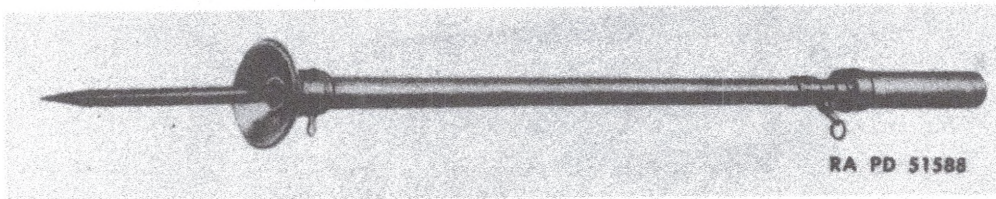

Figure 1 — Projector, Signal, Ground, M1A1
(1) GROUND SIGNAL PROJECTOR M1A1 (fig. 1). This is a single-loading, manually-operated projector used for firing high-burst ranging signals for field artillery training. It is fired by pulling a lanyard. The average height of the burst is about 700 feet.